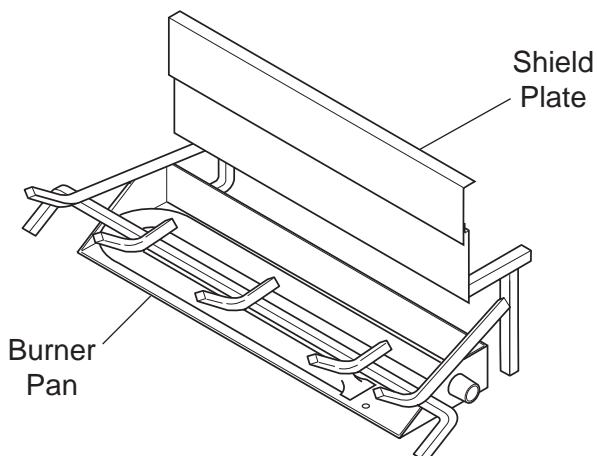

Figure 137 - Sliding Shield Plate Down Back of Burner Pan
1. Slide shield plate down back of burner pan. *See Figure 137.*